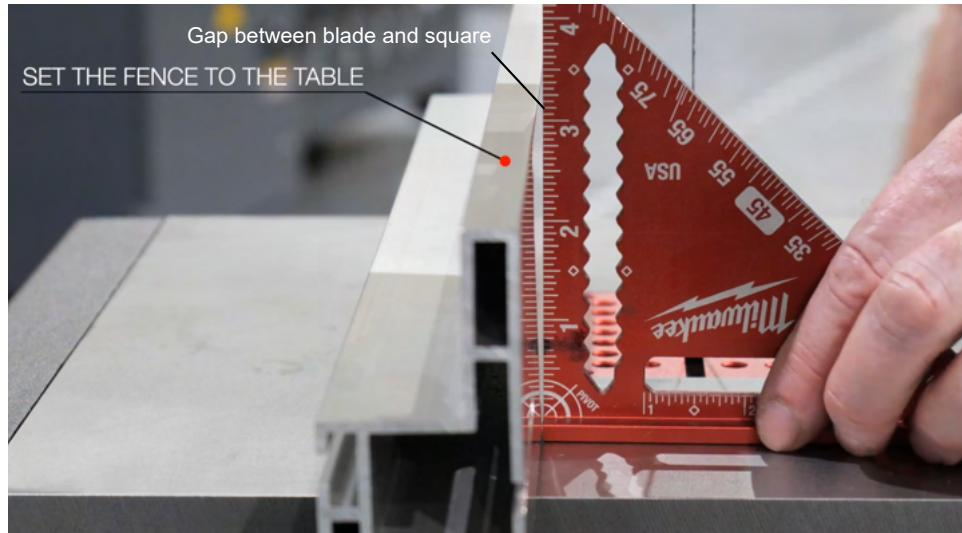

Fig. 43
2. Place a square to the fence and check if the fence is 90° to the table. If there is a gap between the blade and the square as shown in Figure 43, follow the steps below.